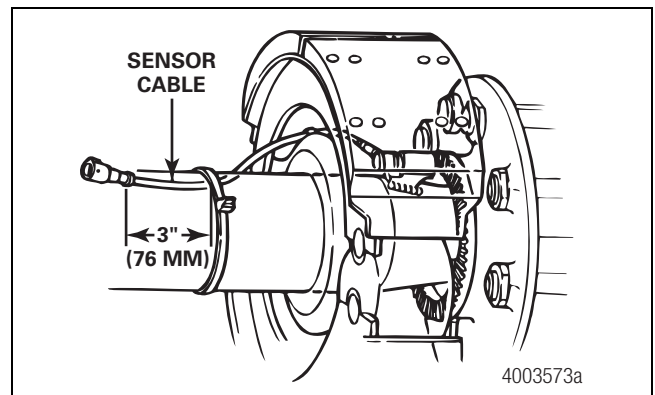

Figure 33
- Route the sensor cable toward the brake chamber, over the brake spider or through the pre-stamped hole dedicated for ABS sensors. Route to the back side of the axle. Secure the cable to the axle between the brake spider and the suspension brackets. Continue to route the sensor cable behind the spring seats. Secure the cable to the axle one inch from the molded sensor plug. Figure 33.